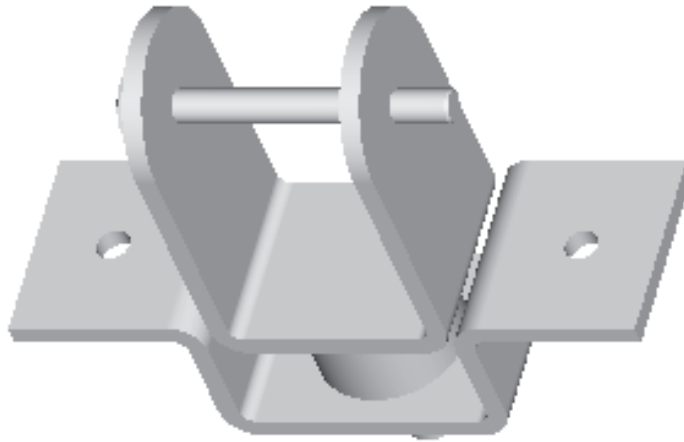

Figure 9-51 Assembly after assembling the hexagonal bolt
8. Out of six faces of the head of the Hexagonal bolt, select any one face and then select the top face of the Bracket. The **Placement Status** area shows **Fully Constrained**. Choose **OK**. The Hexagonal bolt is inserted in the assembly as shown in Figure 9-51.